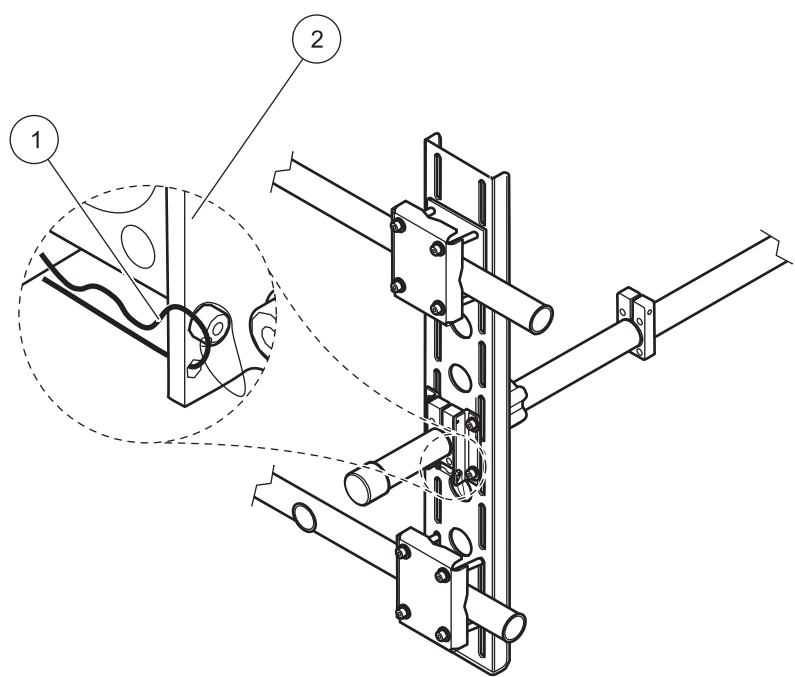

Figure 11 Securing the supporting pipe
7. Bolt the retaining strap for the spring locking pin to one of the angles using an M5 socket head cap screw. Secure the supporting pipe against axial movement by inserting the spring locking pin into a hole (Figure 11 on page 9).